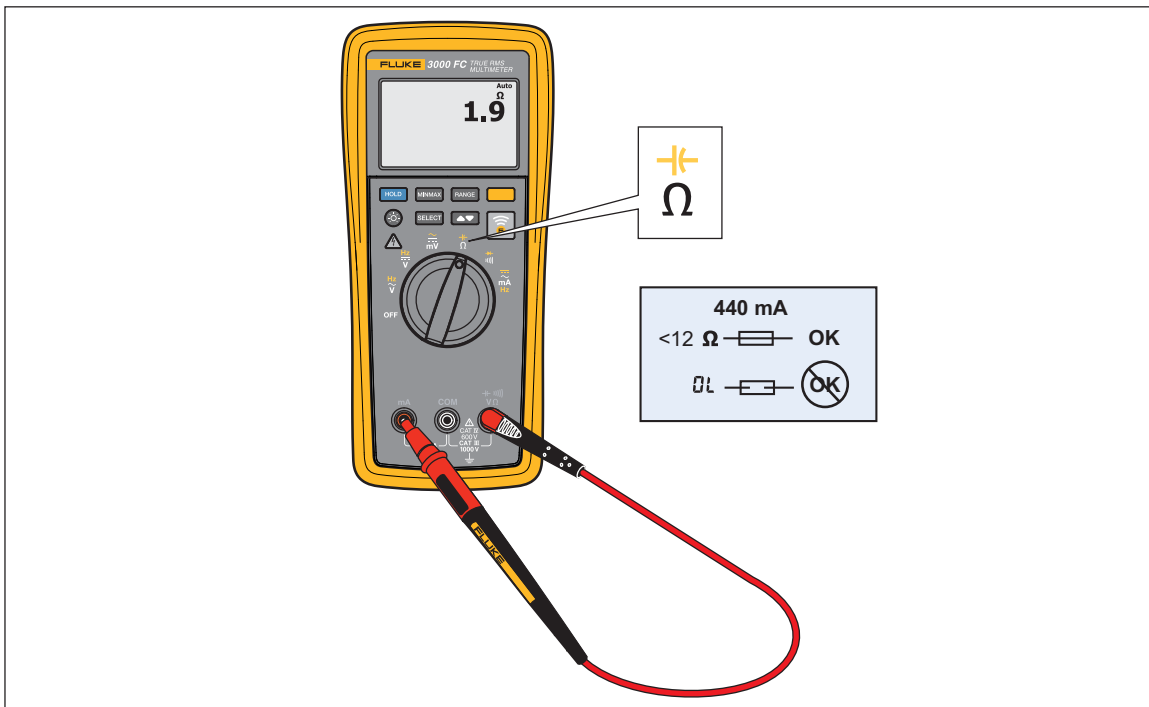

Figure 1. Fuse Test
2. Connect a test lead to the  $\frac{+}{V_{\Omega}}$  jack as shown in Figure 1.